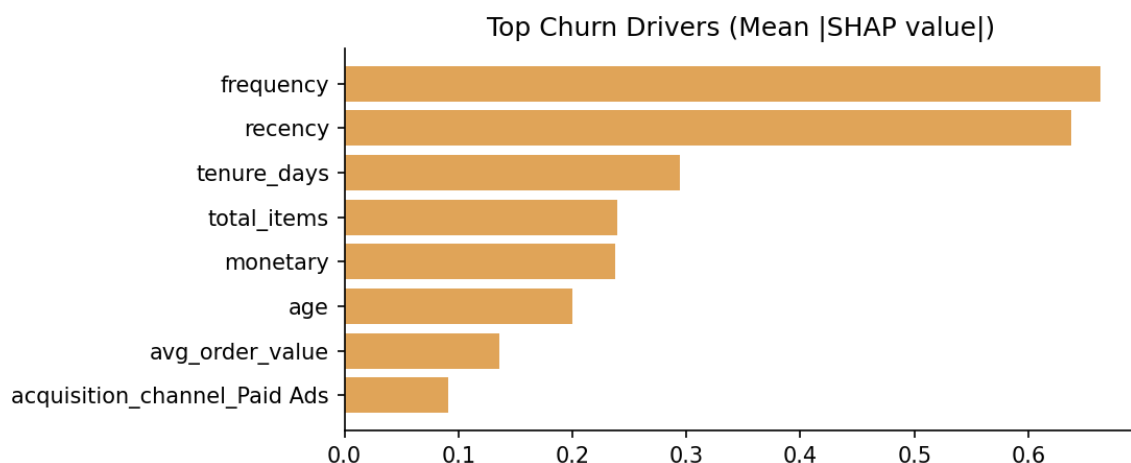

Figure 4 — SHAP feature importance: frequency, recency, and tenure are the strongest churn drivers.
- Figure 4 — SHAP churn feature importance